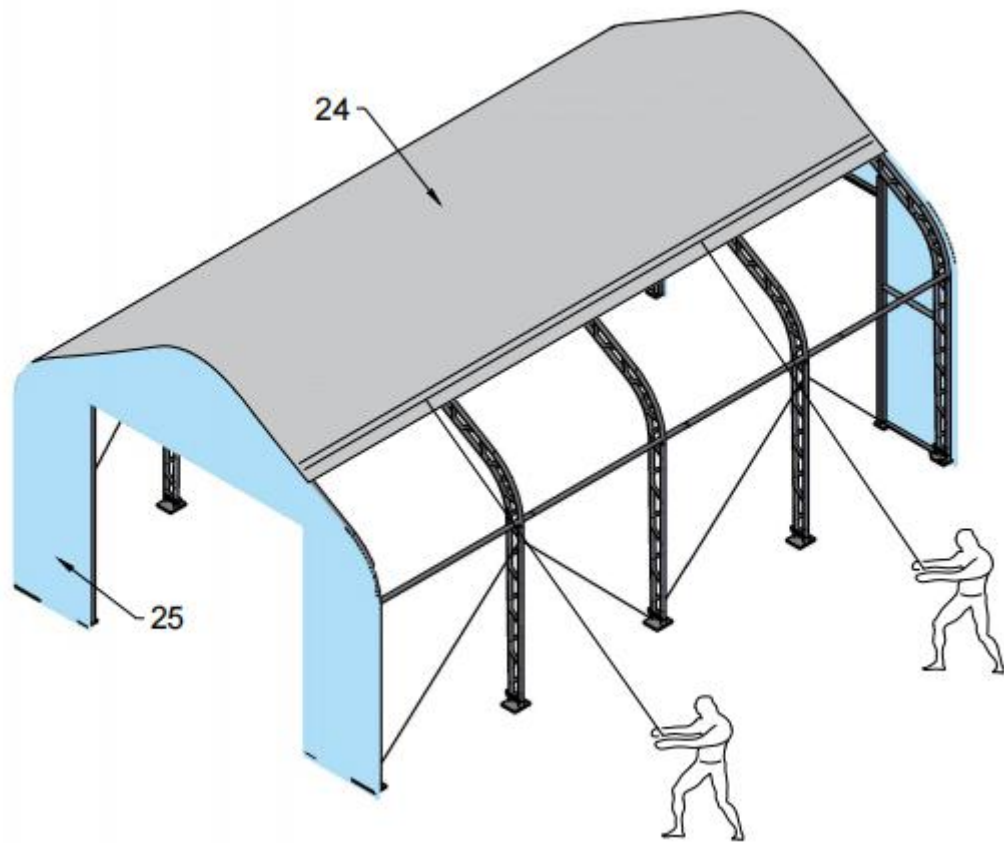

Figure 8
1. When Roof cover is over top of Frame assembly (see Figure 8&9), insert Tensioning tubes (No.14) into pockets along both sides of Roof cover, cut opening for Nylon band for ratchet, find the Nylon band over tube feed end